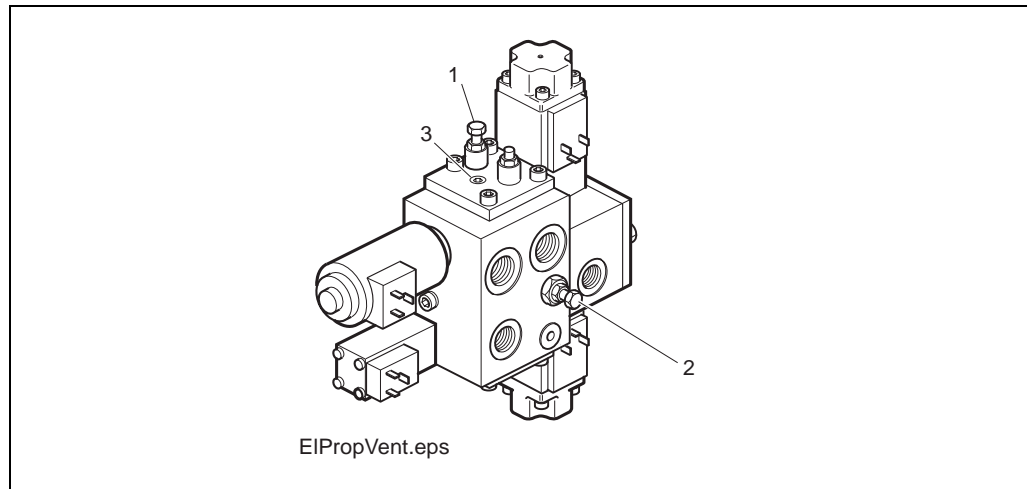

Figure 8.12 Electrically operated proportional valve
If the correct lowering speed has not been obtained (see "Checking the lowering speed" on page 8.28) adjust the lowering speed valve mounted on the hydraulic valve, see pos. 1 figure 8.12, until the correct lowering speed is obtained.
2. Unscrew the adjusting screw, pos. 2 see figure 8.12, two turns to the left.